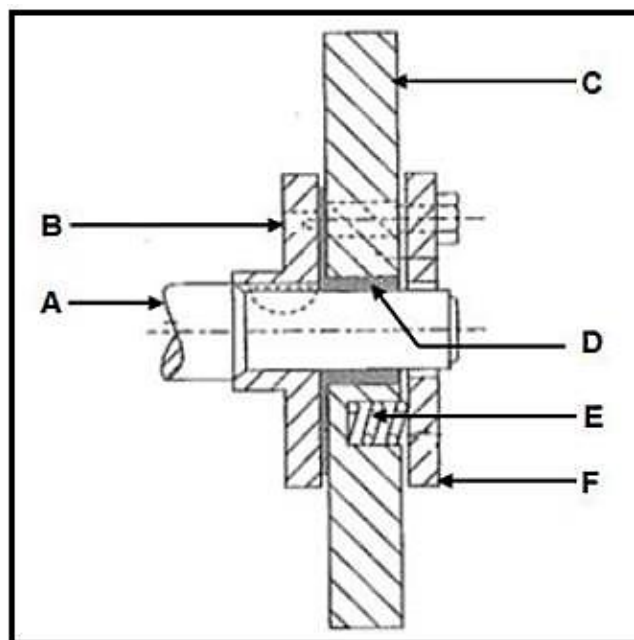

FIGURE 5.4
- 5.4 The equipment shown in FIGURE 5.4 below is a card type compression tester used to carry out compression testing in an internal combustion engine.